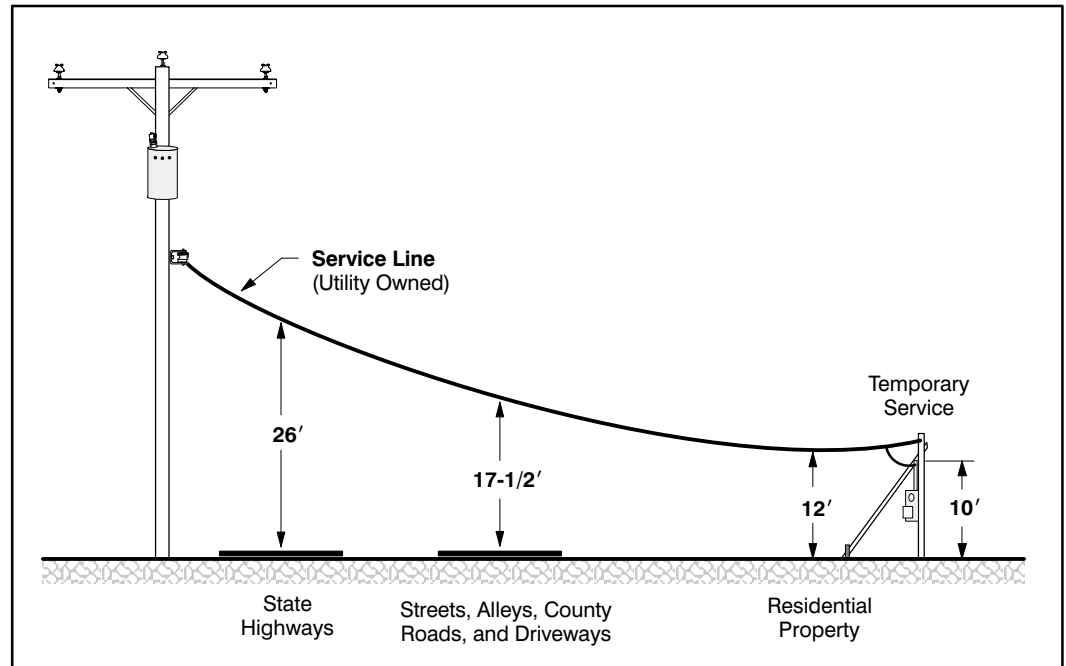

Figure 34 Minimum clearance requirements upon installation
- The service line path should avoid areas where vehicular traffic will occur, unless your temp service post height is increased to provide adequate **clearance** (see *Figure 34*).
Figure 34 shows the clearance requirements for the types of terrain most commonly encountered.